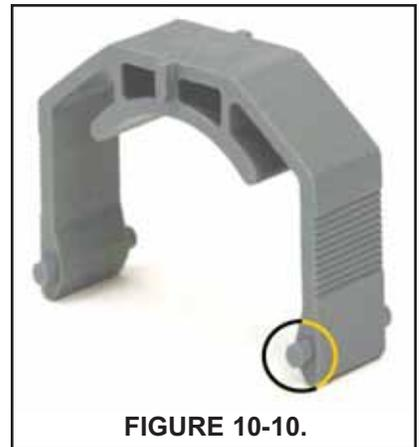

FIGURE 10-8.
6. Insert the new tubing one end at a time. Tongues on the sides of the gray fittings at the ends of the tube fit into receiving grooves in the pump casing. See Figure 10-8. Push the fitting into place until it clicks. Gently stretch the tubing over the rollers and insert the other fitting into the receiving socket on the other side of the pump.